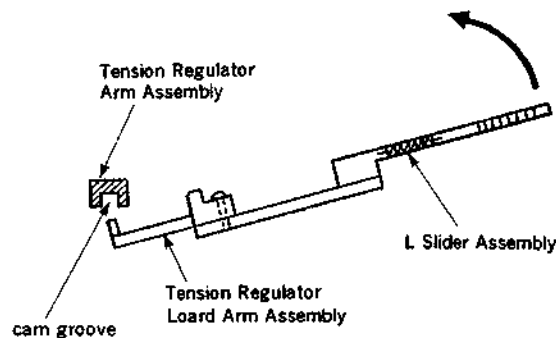

Fig. 2
- (1) Remove the Cassette-up Compartment Assembly referring to Section 2-16.
- (2) Remove the Fly Wheel referring to Section 7-2-1.
- (3) Remove the Threading Ring Assembly referring to Section 7-2-4.
- (4) Remove the Entrance Guide (P) Assembly referring to 7-2-10.
- (5) Remove the Slant Guide Block Assembly referring to Section 7-2-11.
- (6) Press the L-mode select button of the Mode Selector and set to the **DRUM START** mode.
- (7) Remove the Slant Guide Drive Gear.
- (8) Remove the two stopper washers from the L Slider Assembly.
- (9) While pushing the projection of the RL Arm Assembly in the direction of the arrow, lift the right side of the L Slider Assembly and remove it from the shaft.
- (10) Lift the right side of the L Slider Assembly as shown in figure 2 and remove the pin of the Tension Regulator Load Arm Assembly from the cam groove of the Tension Regulator Arm Assembly, and then remove the L Slider Assembly.
- (11) Remove the stopper washer and remove the Tension Regulator Load Arm Assembly.